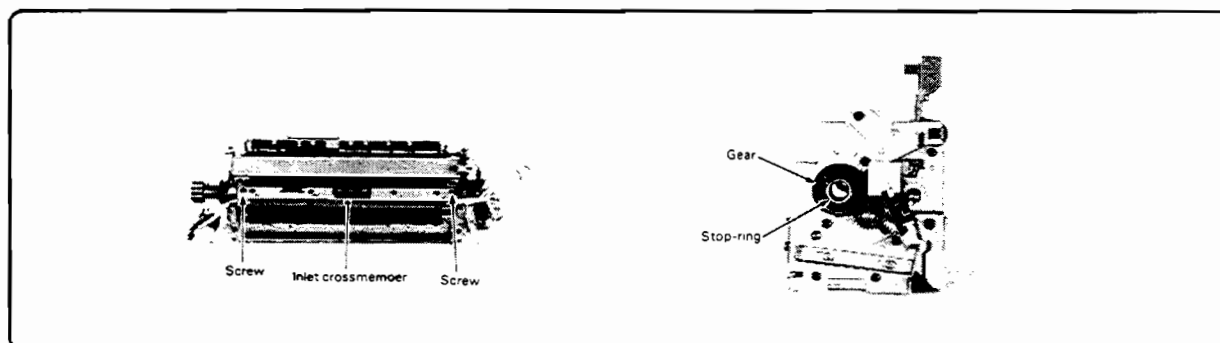

Figure 6-78. Inlet Cross member and Stop Ring Locations
6. Remove the two screws and detach the inlet cross member containing the thermoswitch and the thermistor (Figure 6-78).
7. Remove the stop ring and the gear (Figure 6-78).